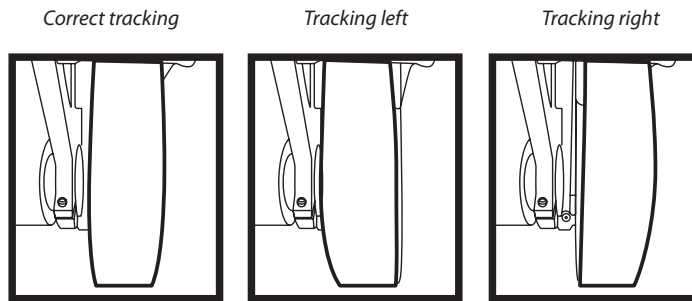
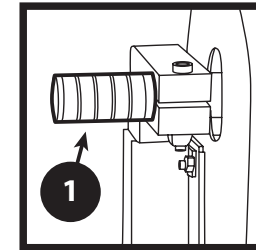

FIGURE 8A, B & C
FIGURE 9
2. If the abrasive belt does not remain centered on the contact wheel while the belt is moving, (Figure 8A, B & C) use the tracking adjustment knob on the upper left side of the machine to track the belt to the center of the contact wheel. Turning the knob will cause the belt to track to the right or to the left. (Figure 9)
- Verify proper tracking of the belt by rotating the tracking adjustment knob. (Figure 9, pg. 8)